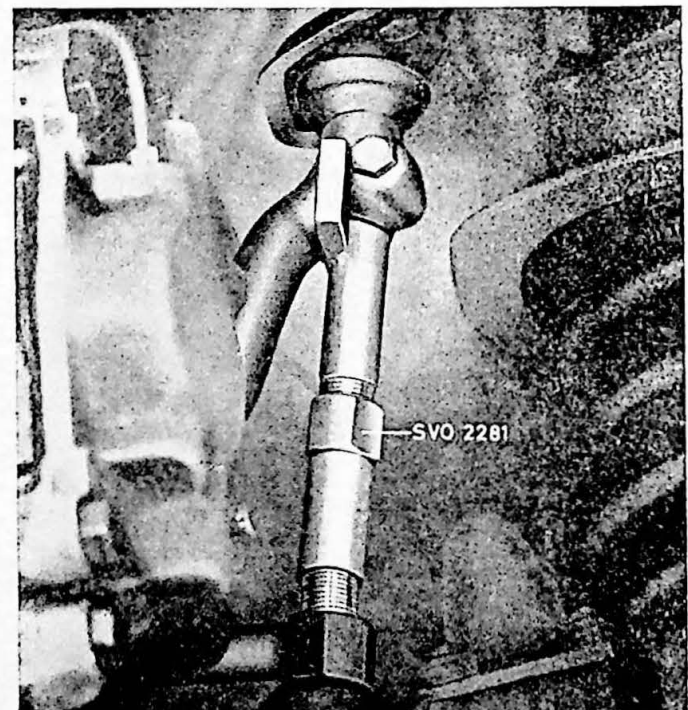

Fig. 6-15. Removing the lower ball joint
4. Disconnect the brake line from the retainer. Apply tool SVO 2281 to the spindle as shown in Fig. 6-15. The retainer for the brake line may have to be bent to the side slightly. Turn the nut of the tool until the tool begins to tension. Turn the nut until the ball joint slackens, not, however, more than one and half turns. If the ball joints fit so tightly that it does not slacken with this amount of turning, strike a few light blows with a hammer and counterhold on the spindle ball joint attachment.